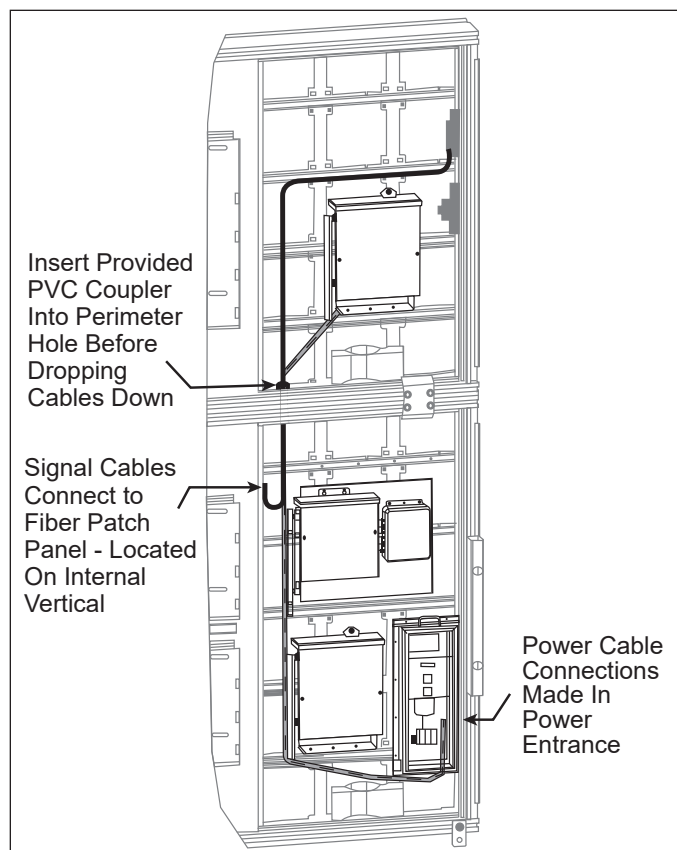

Figure 18: Power and Signal Splice Connections
21. Connect the signal splice cables from the display top section Signal A on the bottom section to Signal A on the top section and Signal B on the bottom section to Signal B on the top section. Refer to **Figure 18**.